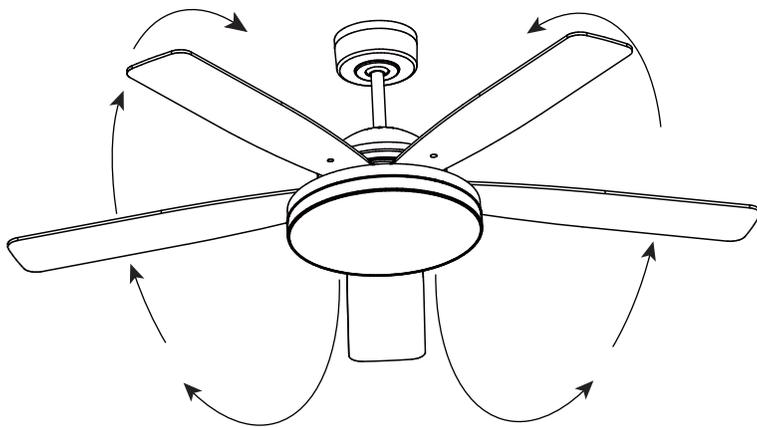

Figure 17
* Warm weather - (Forward) A downward air flow creates a cooling effect as shown in Figure 17. This allows you to set your air conditioner on a higher setting without affecting your comfort.